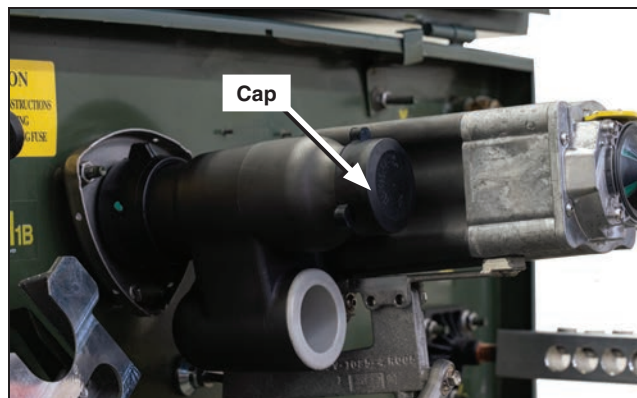

Figure 24. Remove the caps from the bushing well interrupters.
- STEP 1.** Remove the cap. See Figure 24.